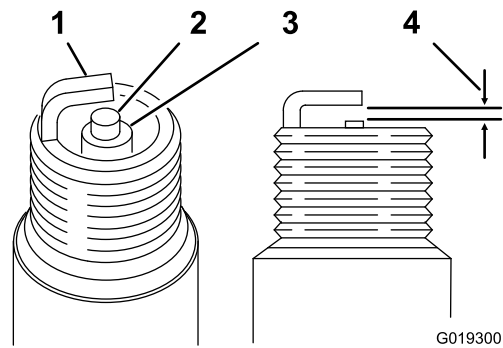

Figure 39
1. Look at the center of the spark plug (Figure 39). If you see light brown or gray on the insulator, the engine is operating properly.
2. Use a gapping tool for spark plugs or a feeler gauge to measure the gap between the side electrode and center electrode (Figure 39).